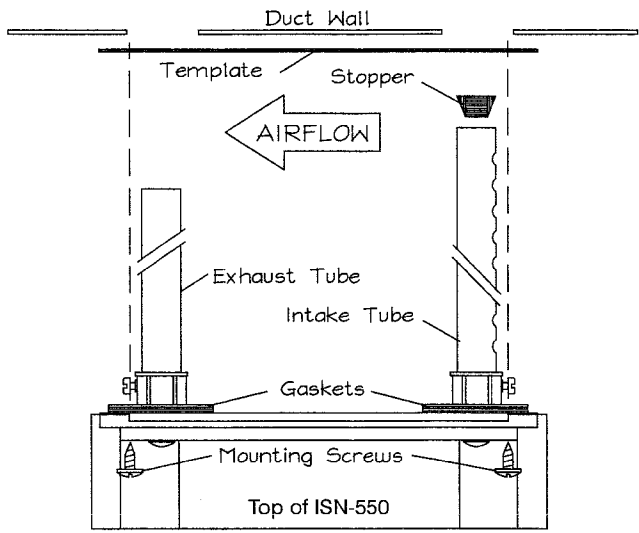

Figure 2: Mounting Diagram.
2. Insert the stopper into the end of the intake sampling tube that is opposite the end that has the set screw hole (see Figure 2:).
2. Use the airflow direction to determine which position gets the intake sampling tube (see figure 2). The intake tube inlet holes must be upwind and facing the airflow.
Figure 2: AUTOCALL TFX-500/800, TFX-500M/800M, TFX-500MV/800MV System using PIM-550 Printer Interface Module and MPIM. All circuits and connections are power limited/Class 2 unless otherwise noted as non-power limited.
**Notes, Figure 2: TFX-500/800, TFX-500M/800M, TFX-500MV/800MV Application with PIM-550 Module**